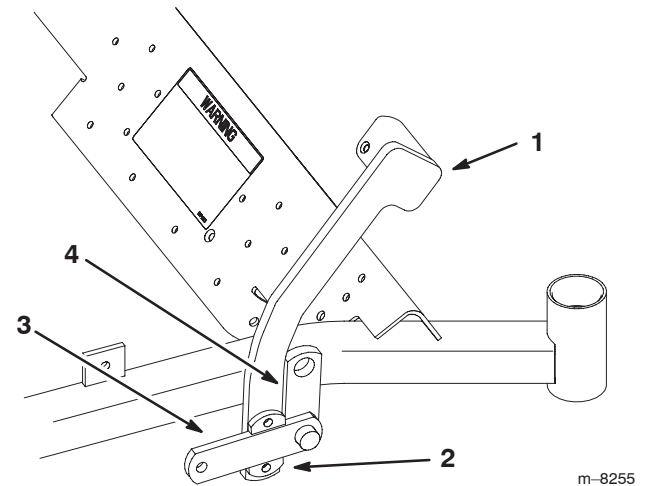

Figure 2
2. Position the lift assist lever with the welded blocks on the top and bottom of the horizontal bar (Fig. 2).
3. Place the lift lever tight against the verticle bar (Fig. 2).